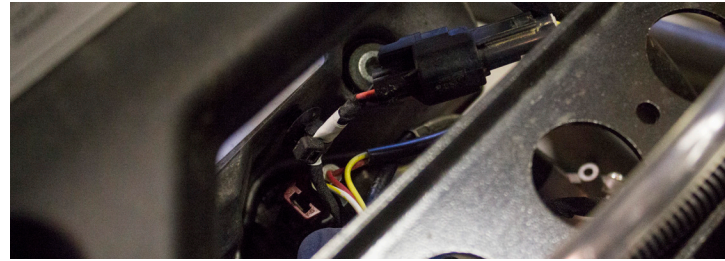

Figure 2
2. Locate the fuel injector on the throttle body of the engine. It is directly in front of the fuel supply line. (See Figure 2)